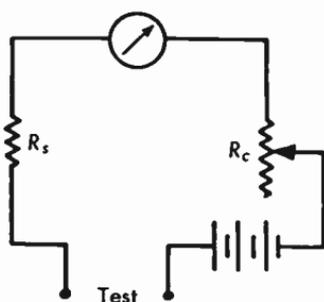

Fig. 12.05 Ohmmeter, consisting of an ammeter and series resistors.
**12.05** A 0–1 milliammeter is used to make an ohmmeter as indicated in Figure 12.05. The series resistor  $R_s$  is 4000 ohms, the internal resistance of the meter is 100 ohms. What will be an adequate value for the variable calibrating resistor  $R_c$  if the voltage of the battery is 4.5 volts, and what will be the part not used in the circuit when the battery is new?